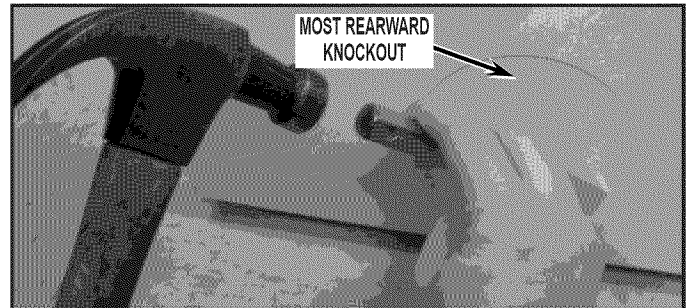

FIGURE 17
2. To remove the most rearward left side knockout, use either a 1/8" drill bit and drill or a cold chisel and hammer. Remove the six(6) knockout retaining tabs around the edge. See *Figure 17*.